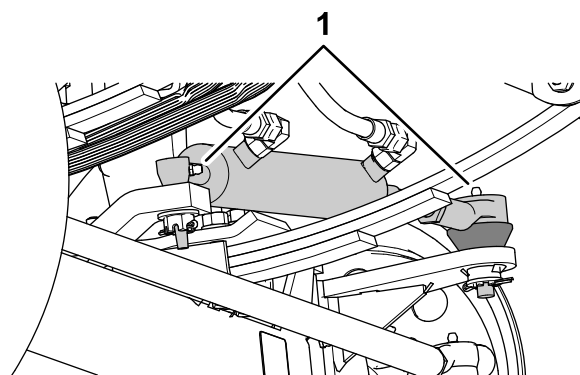
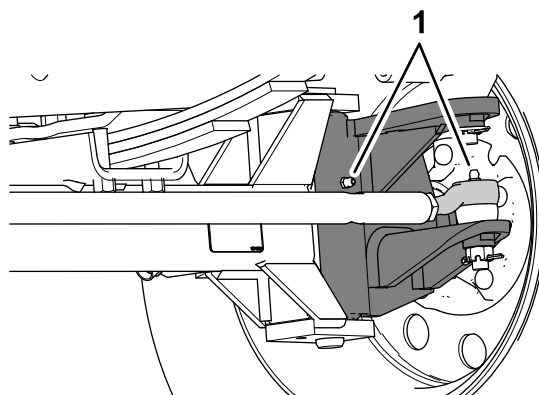

Figure 103
Figure 104
1. Wipe the grease fittings clean (Figure 103 and Figure 104).
2. Pump grease into the grease fittings (Figure 103 and Figure 104).
Note: The grease fittings positions are illustrated in Figure 103.